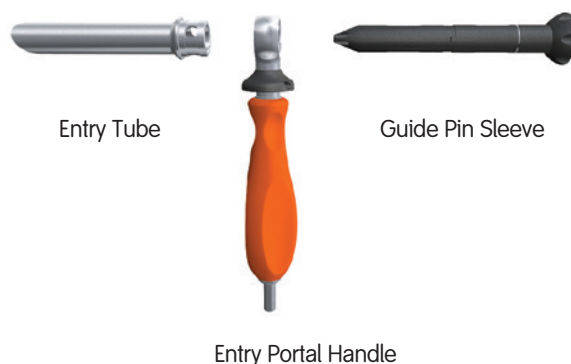

Figure 3
1. Assemble the Honeycomb (71674075), Entry Portal Handle (71674092) and Entry Portal Tube (71674060) (Figure 3). The pieces will lock in place securely at either 0° or 180°.